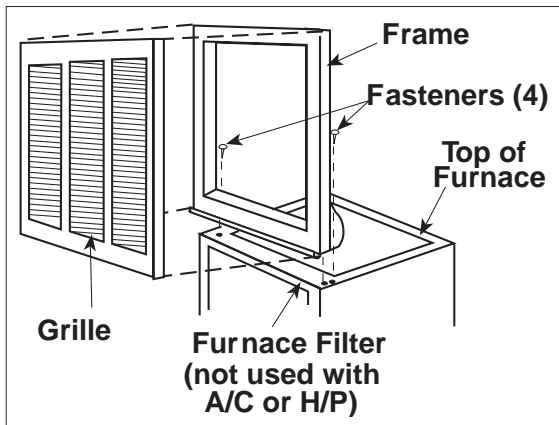

Figure 5. Grille Support Frame and Grille Assembly
- use the filter supplied with the furnace; ensure that the filter is installed mat side down between the filter retainer and furnace top (see Figure 5).
2. Attach frame assembly with four fasteners (provided or equivalent) into pre-punched holes on top of furnace (see Figure 5).